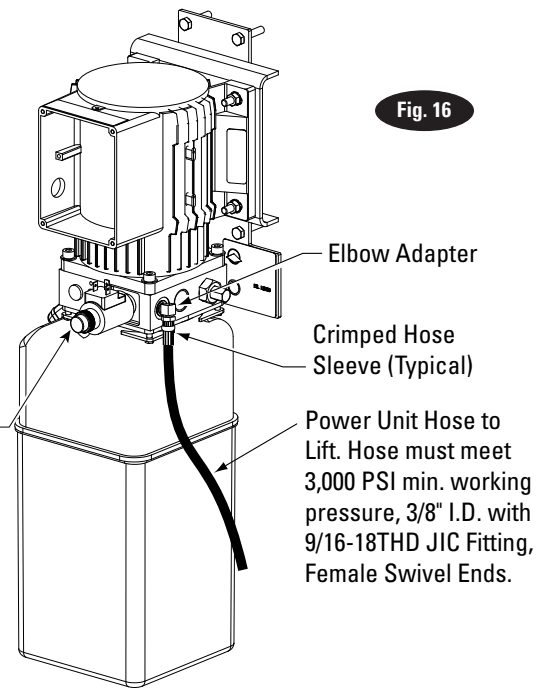

Fig. 16
**C.** Install hose onto elbow adapter on power unit, Fig. 16.